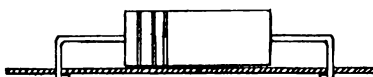

Figure 3-8
- d. Be sure the component leads have a relief bend, then bend the end of the leads flat against the lands. Bent leads should not be greater than $1/8'' \pm 1/32''$. (See Figure 3-8.)